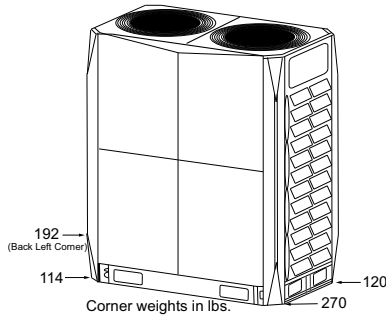
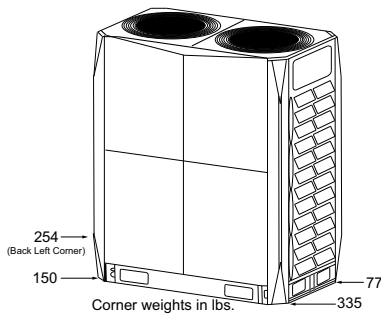
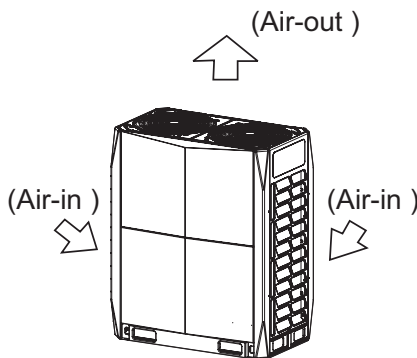
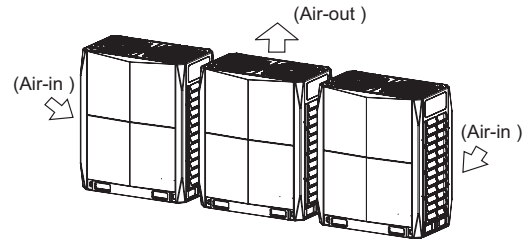

Fig. 3 —Corner Weights (Sizes 072-120K)
Fig. 4 —Corner Weights (Size 144K)
Fig. 5 —Single Unit Installation
Fig. 6 —Multiple or Parallel Unit Installation
Step 2 — Position the Unit — Units are recommended for outdoor use. For corner weights, see Fig. 3. and Fig 4. For single unit installation, see Fig. 5. For multiple or parallel unit installation, see Fig. 6. Unit should be mounted on concrete and fastened to anchor bolts to prevent unit from tipping. Units installed in areas that are exposed to ambient temperatures below freezing (32°F) should be installed on a snow/ice stand as defined by local codes.